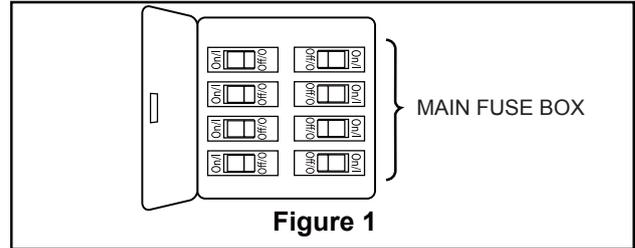
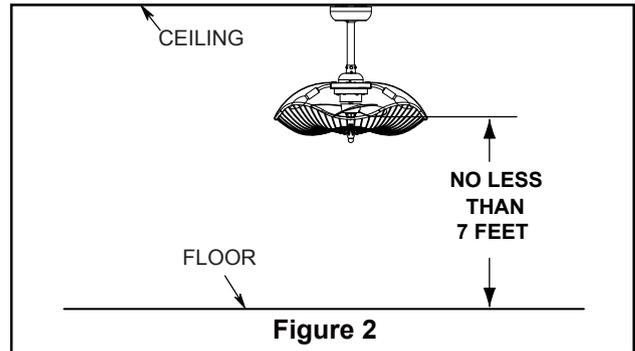
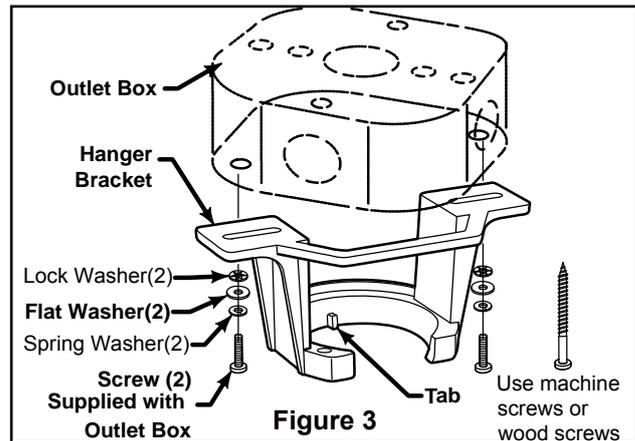

Figure 1
Figure 2
Figure 3
Your new ceiling fan will require a grounded electrical supply line of 120 volts AC, 60 HZ, 15 Amp Circuit. Electrical code requires use of a fan-rated outlet box to support the extra weight and motion associated with a ceiling fan. A fan-rated box will be labeled as such and typically supports up to a 70lbs ceiling fan. Fan-Rated Outlet Boxes vary in ratings and design. Ensure the ratings of your ceiling fan outlet box meet the requirements for the ceiling fan being installed. Figure 1, Figure 2 and Figure 3 depicts different structural configurations that may be used for mounting the outlet box.
Low-profile use (Figure 1)
Deep-profile use (Figure 2)
Brace use (Figure 3)
- 1. Remove the hanger ball portion from the downrod/hanger ball assembly by loosening the set screw in the hanger ball until the ball falls freely down the downrod. Remove the pin from the downrod, then remove the hanger ball. Retain the pin and hanger ball for reinstallation in Step 6. (Figure 1)
- 2. Remove the hairpin clip and clevis pin from the bottom of the downrod. Retain the pin and clip for reinstallation in Step 4. (Figure 2)
- 3. Loosen the two set screws in the downrod support of the motor assembly. Route the black, white, blue, green wires through the downrod. (Figure 3)
To avoid possible fire or shock, be sure electricity is turned off at the main fuse box before hanging. (Figure 1)
The fan must be hung with at least 7' of clearance from floor to blades. (Figure 2)
- 1. Securely attach the hanger bracket to the outlet box using the outlet box screws and washers supplied with the outlet box. (Figure 3)
- 1. To set the code on receiver unit, slide dip switches to the same positions as set on the remote. (Figure 1)
<p>To avoid possible electrical shock, be sure electricity is turned off at the main fuse box before wiring. (Figure 2)</p>
- 2. Slide the receiver into the hanger bracket before wiring as shown in figure 3.
- 2.** Restore electrical power to the outlet box by turning the electricity on at the main fuse box. (Figure 2)